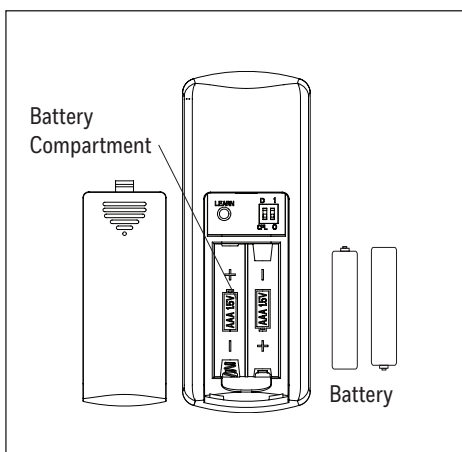

Figure 6.1
1. Use a flat-head screwdriver, if necessary, to remove the battery cover from the back of the remote found in remote pack. Insert the battery into the remote; ensure polarity of battery matches the polarity indicated in the battery compartment -- positive (+) to positive (+) and negative (-) to negative (-). Replace the back cover and press the fan on/off button on the remote to ensure the LED indicator illuminates and the remote turns on the fan (Figure 6.1).
Remote does not work.	1. Power surge may have cleared the memory and remote needs to be resynced to the receiver. Syncing instructions: Turn off the power at the breaker box for at least 10 seconds and then turn the power back on. Within 30 seconds, press and hold the "LEARN" button (Figure 6.1) on the back of the remote for 3 seconds. The fan will turn on at high speed and light will blink twice and stay on, signaling a successful synchronization. 2. Insert new AAA batteries in battery compartment of the wall control. 3. If there are several remote fans in proximity, turn the power off to those fans and re-sync the fan.